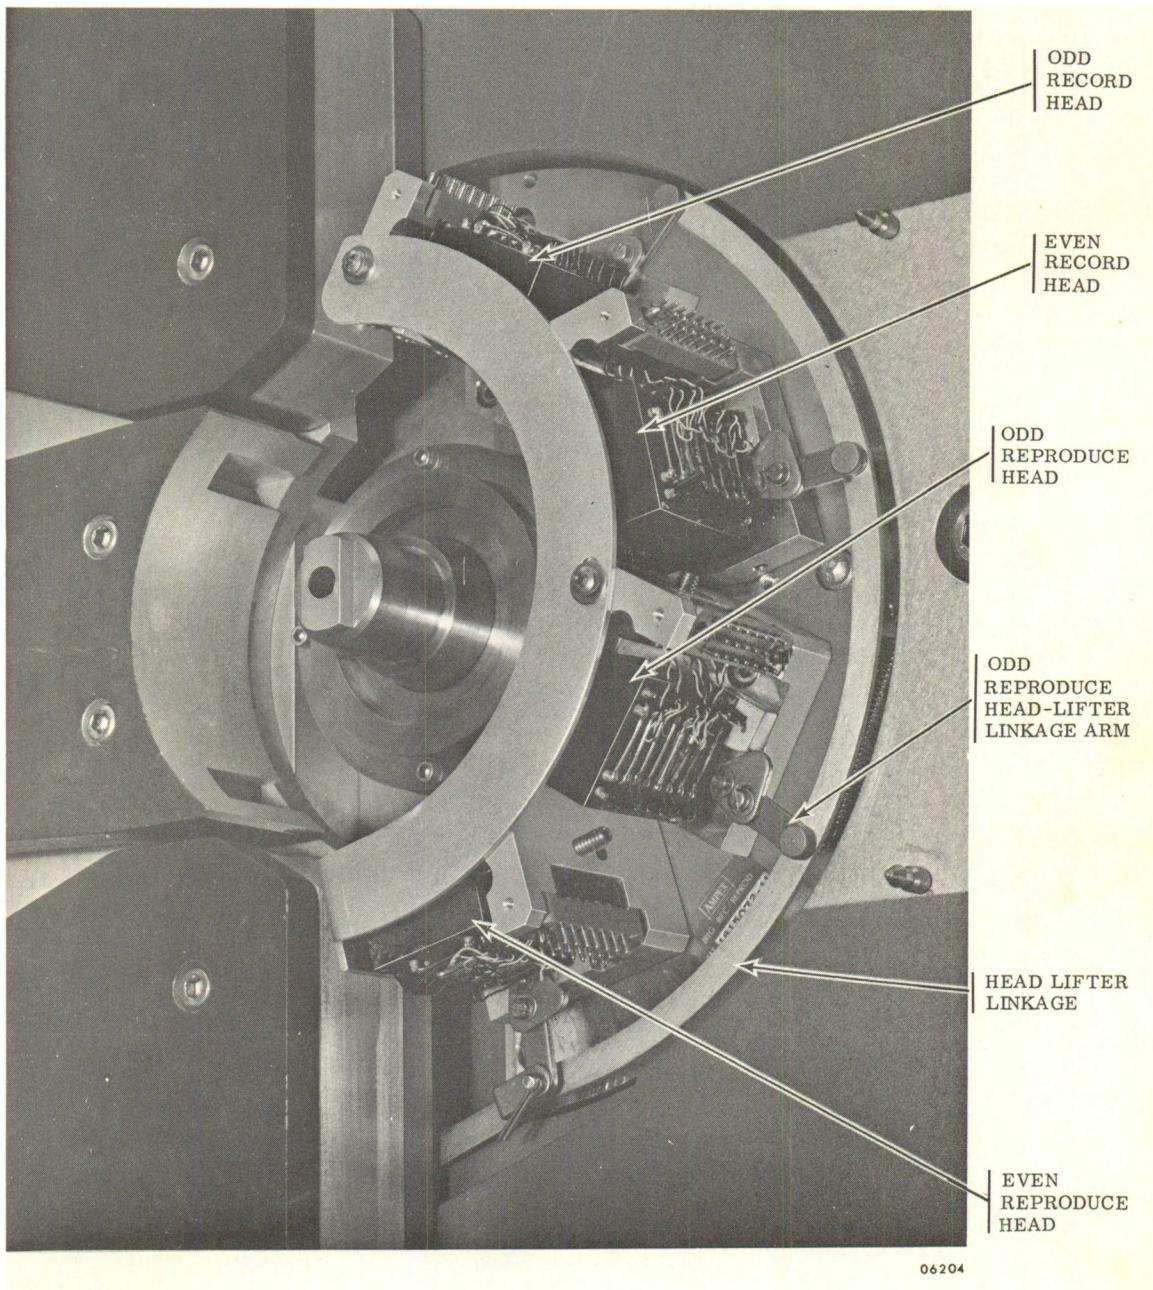

Figure 5.2-3. Head Assembly (Shown with capstan removed)
- c. Slowly move (manually) the head-lifter linkage (see Figure 5.2-3) by applying pressure (counterclockwise) to the odd reproduce head-lifter linkage arm until one of the heads begin to move away from the capstan. If the solenoid is properly adjusted, a clearance will exist between the head-lifter linkage arm and the head-lifter screw.